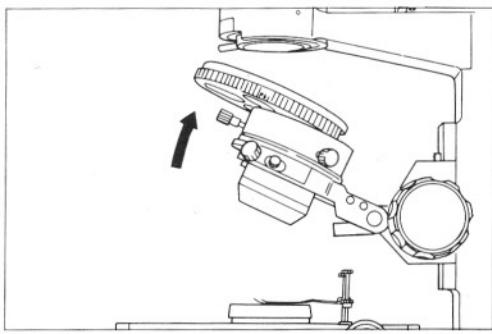

Fig. 41
- Turn the condenser mount upward to swing out the condenser. This device facilitates replacement of large specimens, culture dishes, etc. (Fig. 41)